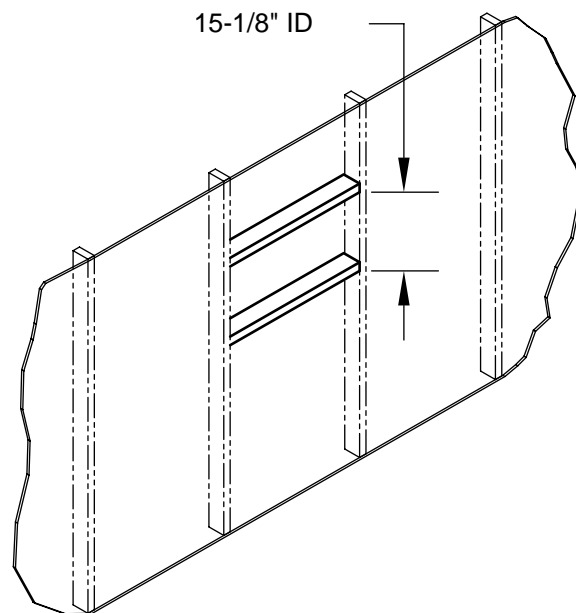

fig. 6
**PLEASE NOTE:** If the distance between the studs/joists is 21 1/2" (54.6 cm) or more, a subframe will need to be constructed behind the sheetrock surface. This frame should be constructed between the studs/joists with an inside dimension of 15 1/8" (38.42 cm.) (please see fig. 6)